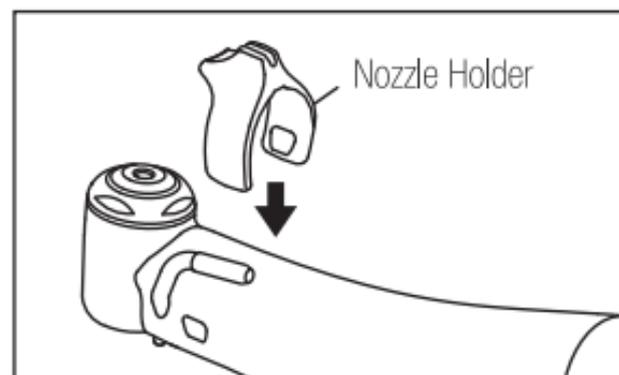

Fig. 5 13
1) Attach the Nozzle Holder. (Fig. 5)